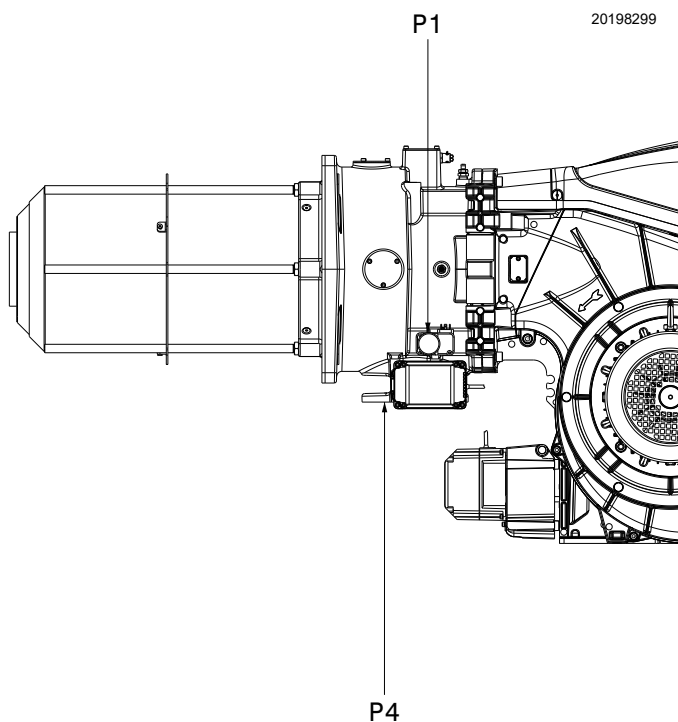

Fig. 22
- subtract the combustion chamber pressure from the gas pressure measured at test point P1 (Fig. 22).
To calculate the required gas pressure at test point P1)(Fig. 22), set the MAX output required from the burner operation: